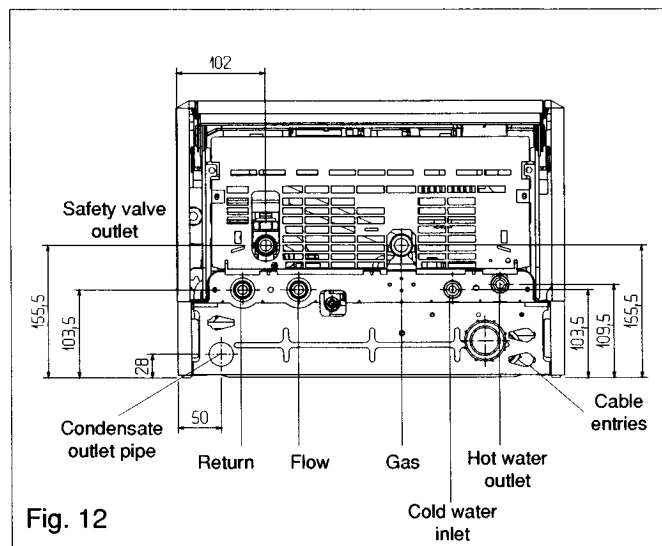

Fig. 12
4.6.1 GAS (see fig. 12)
4.6.2 FLOW & RETURN (see fig. 12)
4.6.3 SAFETY VALVE (see fig. 12)
4.6.4 COLD WATER INLET (see fig. 12)
4.6.5 HOT WATER OUTLET (see fig. 12)
4.7 CONDENSATE OUTLET (see fig. 12)